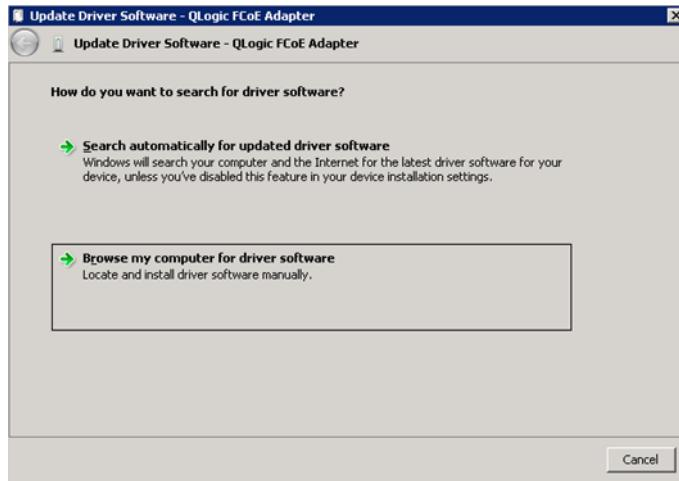

Figure 3-28. Starting the Update Driver Software Wizard
7. The Update Driver Software Wizard starts. Click **Browse my computer for driver software** (Figure 3-28).